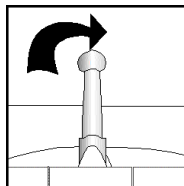

Figure 26
1. Rotate clear plastic toggle so that it is perpendicular to the white webbing slots on the packbag. **Refer to Figure 26.**